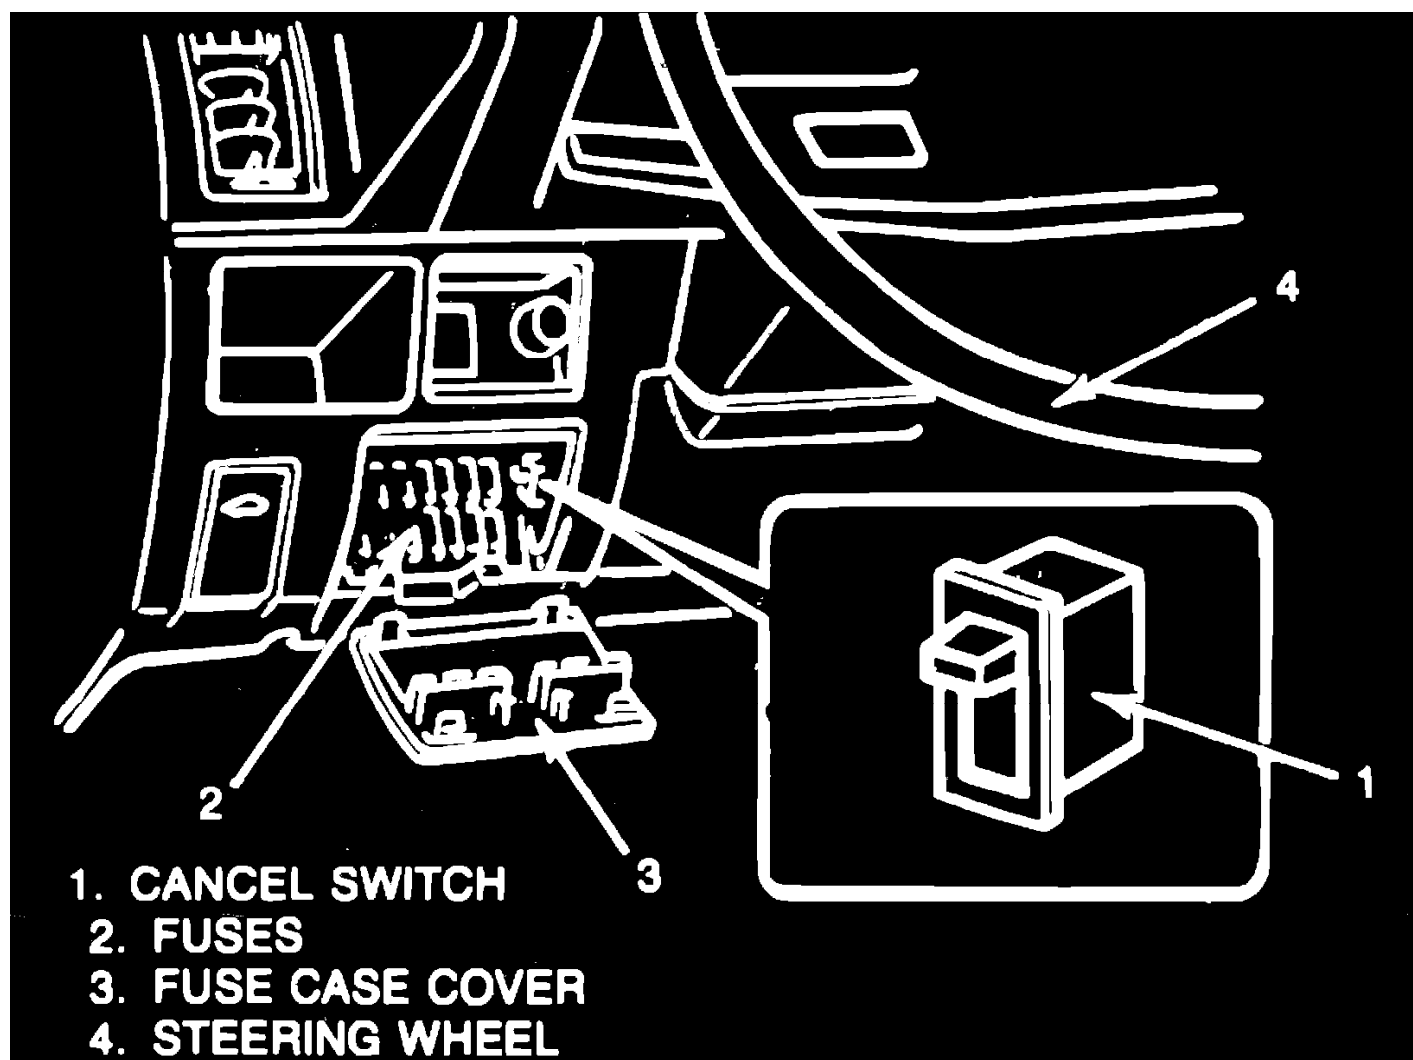

Fig. 6 Oxygen sensor indicator lamp cancel switch
1. Ensure that ignition switch is off, remove fuse panel cover and move cancel switch to on position, **Fig. 6**.